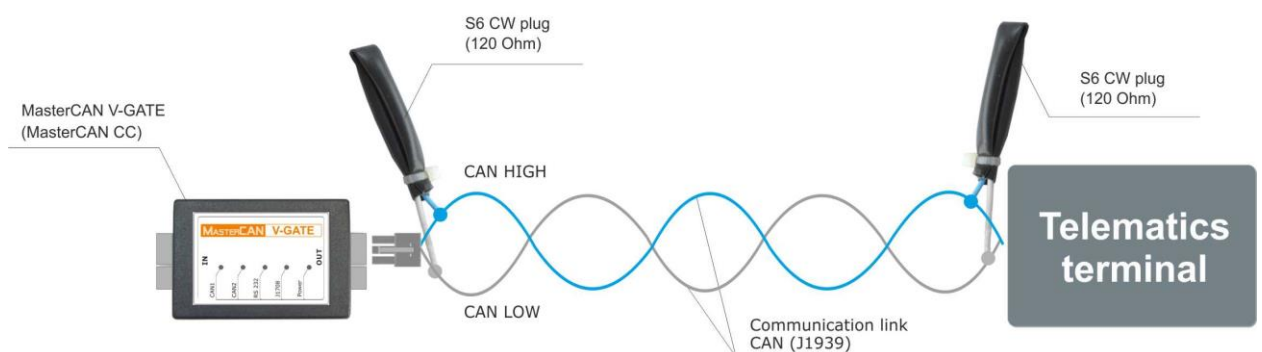

Figure 10 — Connection of MasterCAN CC / V-GATE converter to the Telematics terminal that has no inbuilt terminal resistor
**ATTENTION:** In case you connect MasterCAN CC / V-GATE to the terminal that has no inbuilt terminal resistor, connect S6 CW plugs (see the delivery set) at the ends of the communication line between CAN LOW and CAN HIGH wires (see figure 10). Switching on the terminal resistor **is the obligatory condition** for correct data transfer via CAN 2.0B communication line (SAE j1939).